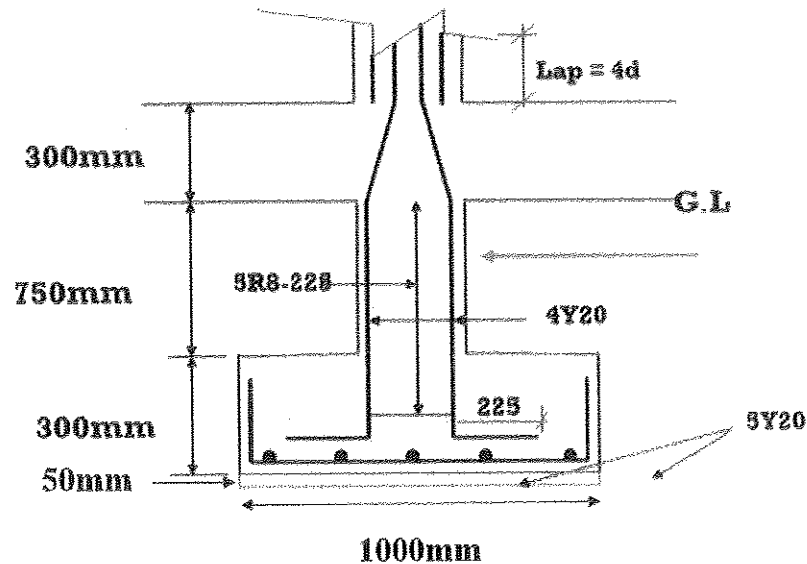

Figure B4(c) / Rajah B4(c)
- (c) Referring to the following Figure B4(c) and the data given, measure the quantity of reinforcement bar for main bars and links of a column stump in a dimension form.